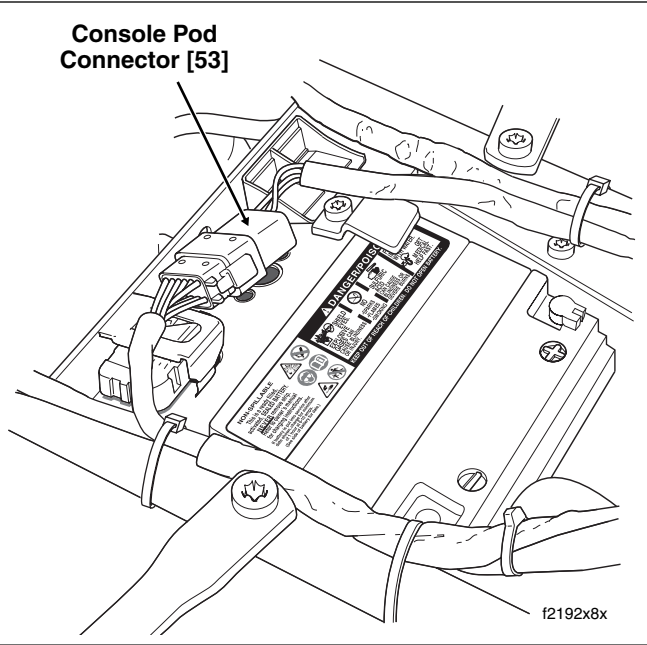

Figure 8-189. Remove Seat
17. Release console pod connector [53], 12-place Deutsch, from attachment clip anchored in hole of frame weldment at rear of battery box. See Figure 8-189. Depress external latches and use a rocking motion to separate pin and socket halves.
13. Move to opposite side of motorcycle. Connect console pod connector [53], 12-place Deutsch. Install connector onto attachment clip anchored in hole at rear of battery box. See Figure 8-189.